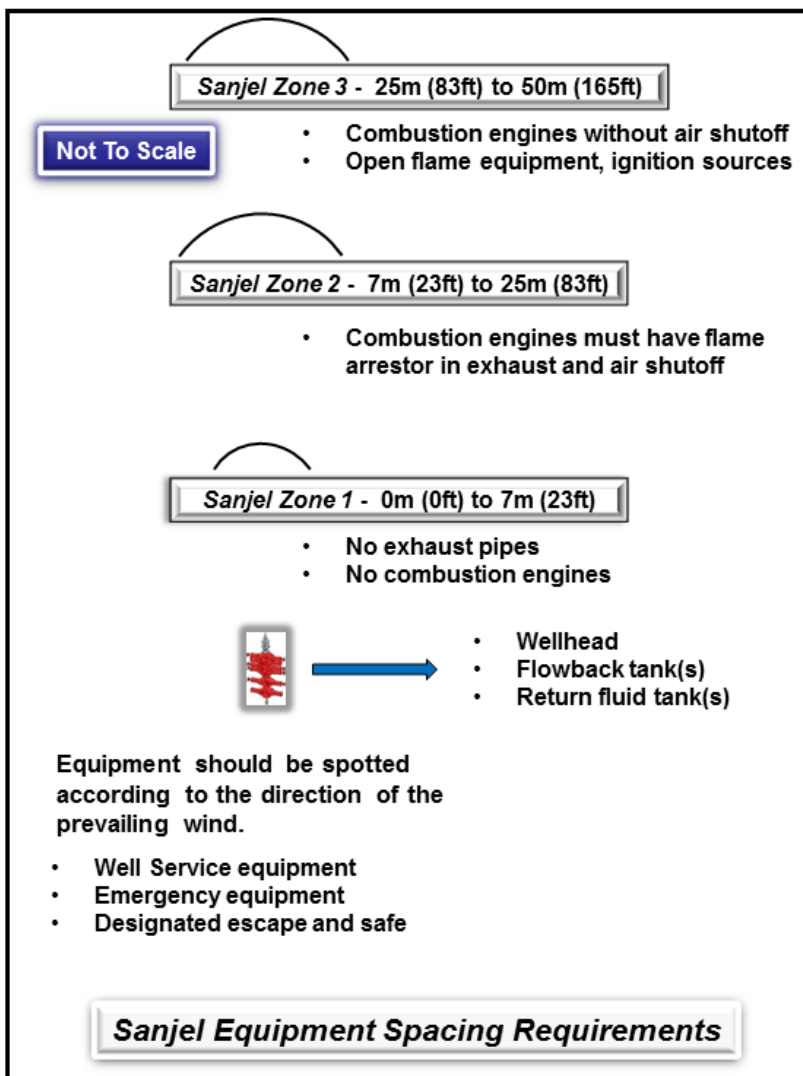

FIGURE 1 – Sanjel Equipment Spacing Zones
- 10.1.3 All non-flame arrested ignition sources must be located a minimum of 25 m (83 ft.) away from the wellhead and flowback tanks. Refer to Figure 1.